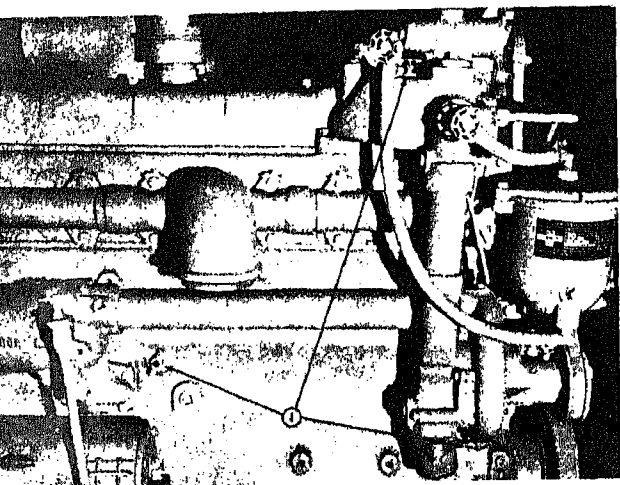

Fig 2-8. Coolant drain points
2. To completely drain cylinder block and head, open petcock or remove drain plug on water pump side of cylinder block at the rear of engine. If an air compressor or other "water cooled" accessory is used, open petcock on unit. See Fig. 2-8).